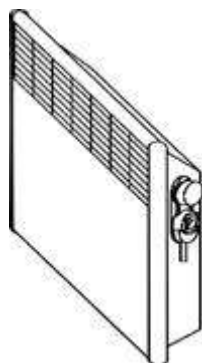

Fig. 5
5.7 Turn the switch key to the off position "0", set the thermostat knob to the "❄️" position (connect the "❄️" sign on the knob with the mark on the control unit). The convector is ready for operation (the location of the convector controls is shown in Fig. 5).